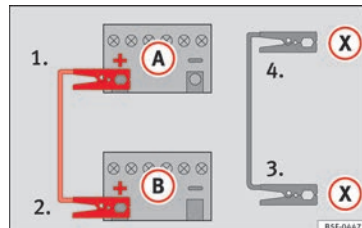

Fig. 78 Diagram of connections for vehicles with Start Stop system
– For vehicles with Start-Stop system: connect one end of the **black** jump lead **(X)** to a suitable ground terminal, to a solid piece of metal in the engine block, or to the engine block itself » **Fig. 78**.